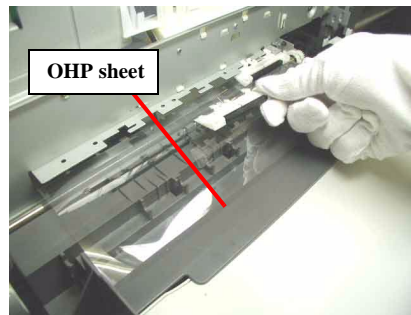

Figure 4-66. Paper guide removal procedure (2)
- Avoid to damage the coated surface of the PF roller by using the OHP sheet. (Refer to Figure 4-66)